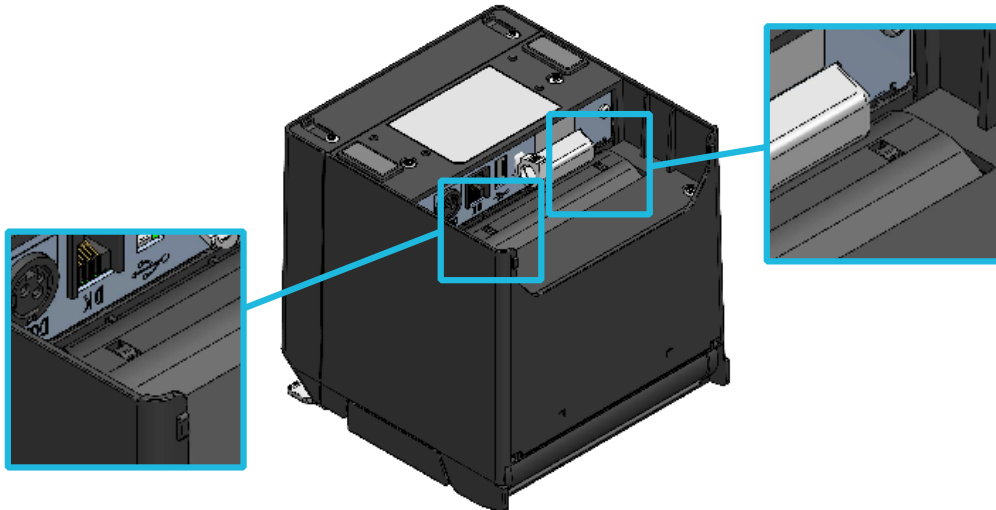

Figure 14-5 Partition Plate Installation Check
- (7) Turn the printer over, and make sure that the projection of the partition plate L and partition plate R are fit properly into the hole of the paper holder (the arrow shown in Figure 14-5).